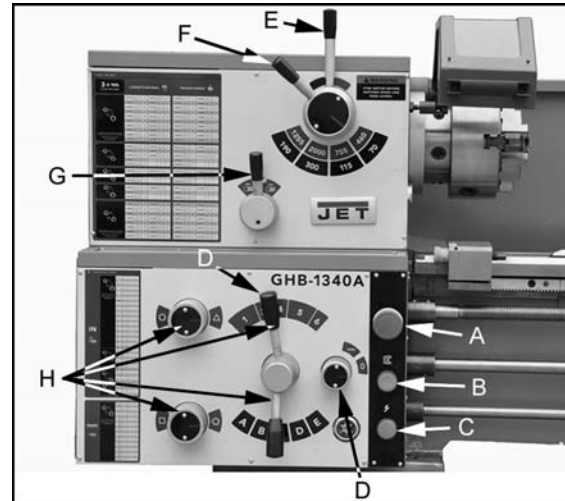

Figure 12
1. **Emergency Stop Switch** (A, Fig. 12) - depress to stop all machine functions. Caution: lathe will still have power. Turn clockwise to re-set.
2. **Jog Switch** (B, Fig. 12) - Depress and release to advance spindle momentarily.
3. **Power Indicator Light** (C, Fig. 12) - Lit whenever lathe has power.
4. **Feed Rod/Leadscrew Selector** (D, Fig. 12) Use knob and lever to activate leadscrew and feed rod.
5. **High/Low Speed Selector Lever** (E, Fig. 12) - Move to the left for low speed range. Move to the right for high speed range.
6. **Four Step Speed Selector Lever** (F, Fig. 12) - Use to select one of four spindle speeds in either high or low range.
7. **Feed Direction Selector** (G, Fig. 12) - Selects carriage travel direction when the chuck is rotating in the forward direction or counter-clockwise as viewed from the front of the chuck.
8. **Feed Rate Selector** (H, Fig. 12) - Use knobs and handles to set desired feed, or lead rates.